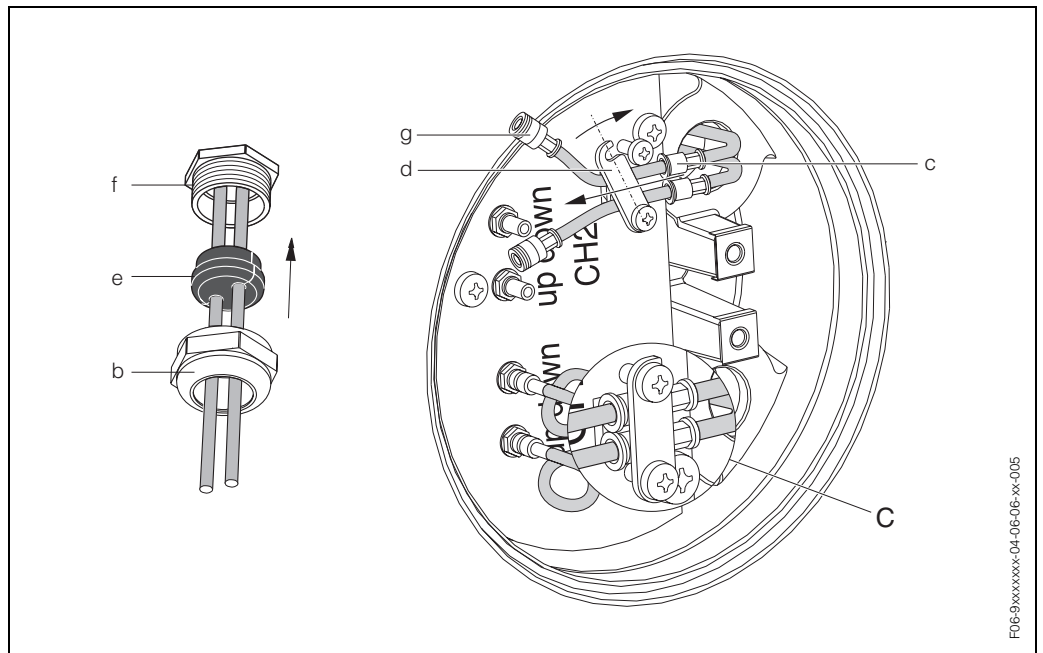

Fig. 5: Connecting the sensor connecting cable
6. Plug in the sensor cable connectors analogue to the arrangement in Fig. 5.